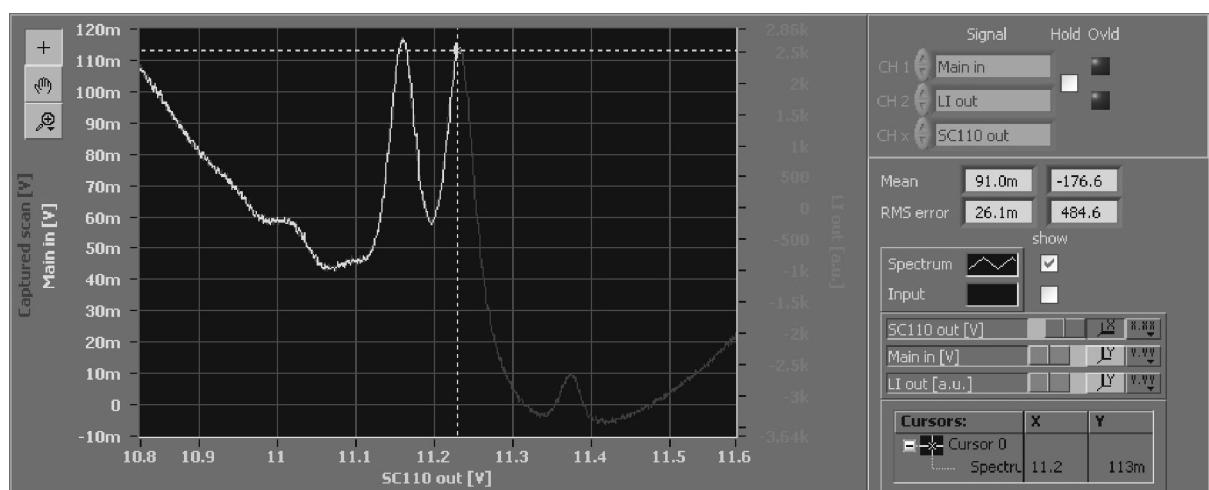

Figure 50 AutoLock Display while the lock is triggered (*LI/PDH: Lock to extremum*)
26. To initiate the lock, perform a right mouse click to access the context menu and select *LI/PDH: Lock to extremum*. The trace changes its color (here from yellow to blue) to show that the actual trace is captured in the background. During the next scan the lock is triggered. Figure 50 shows the AutoLock display while the lock is triggered. The blue trace is the captured signal of the last scan. The yellow trace is the scan during which the lock is triggered. You can see that the trace stops at the selected peak. After a while the yellow trace disappears and there is only a scatter plot left. The interpretation of this plot and the optimization of the lock can be found in Paragraph 10.2.1. For optimization of the PID parameters see Paragraph 9.3.